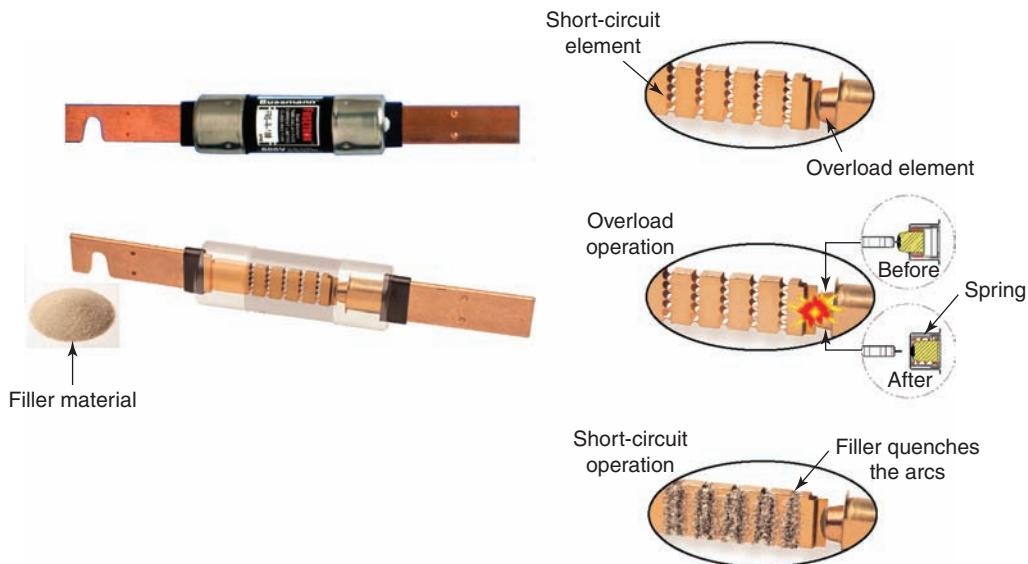

Figure 6-46 Dual-element fuse.
instantaneous trip features that allow the high motor starting current to flow for a short time without blowing the fuse. Figure 6-46 shows the construction of a dual-element fuse. The operation of a dual-element fuse can be summarized as follows:
- Under sustained overload conditions, the trigger spring fractures the calibrated fusing alloy of the overload element, releasing the connector. The insets in Figure 6-46 represent a model of the overload element before and after.